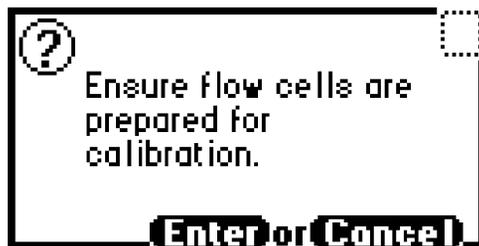

Figure 3-20 Wavelength Calibration Message
- Press **Shift-Calibrate**. A prompt appears (Figure 3-20), reminding you to make sure flow cells are prepared.